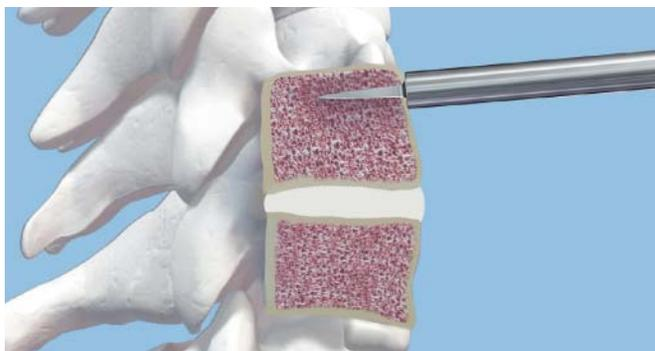

Figure 12
- ① Perforate the anterior cortex with the awl, using lateral fluoroscopy to ensure its trajectory is parallel to the affected endplate (Figure 12).